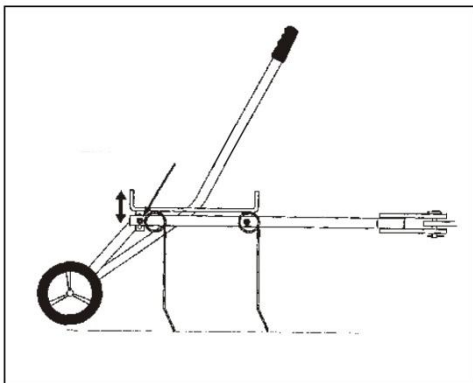

Figure 10
1. Place the vehicle pulling the dethatcher on an even surface, e.g. a driveway or garage. Couple the dethatcher on the vehicle. Adjust the mounting plate if it is not horizontal. Loosen the nuts holding the towing arms in the large, rear angle brackets. Make sure that the mounting plate is level and that both the front and rear row of tine springs are in contact with the ground (fig. 10). Tighten the nuts fully.